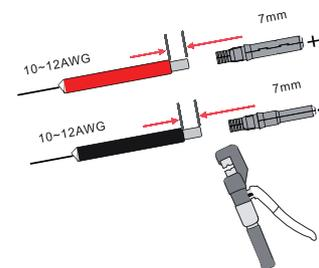

Figure 4.1-2 Crimp the terminal to the wire
**Setp 2.** Crimping metal terminals with crimping pliers,as shown in Figure 4.1-2.